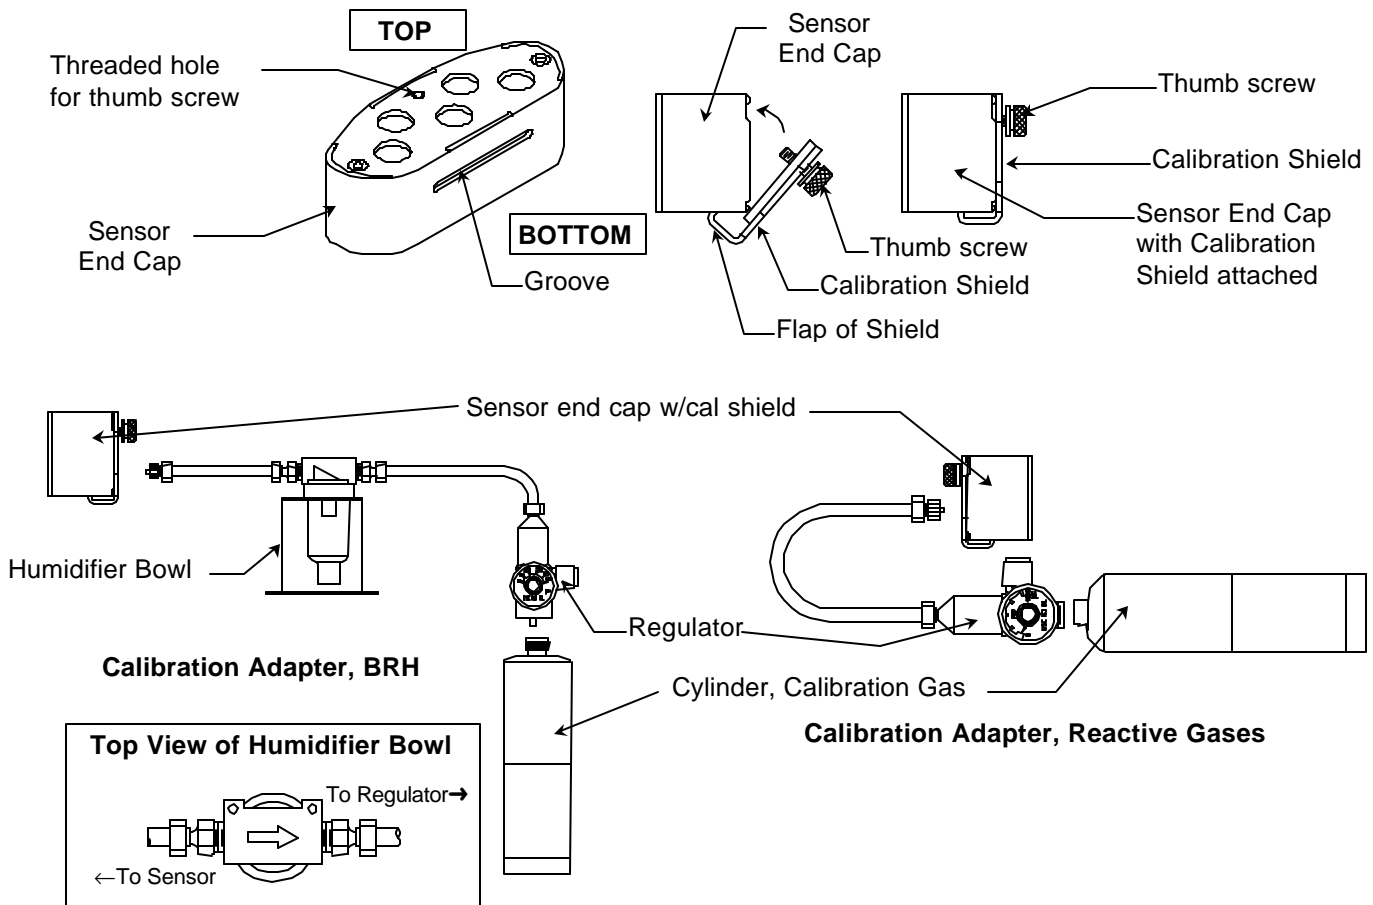

Figure 8: Calibration Adapter Attachment
Attach the sampling shield supplied with the instrument, to the bottom of the instrument in the same manner as the calibration shield, see Figure 8. The calibration shield has an orange label. The sampling shield has a yellow label.
Attach the calibration adapter to the cylinder of span gas and calibration shield. See figure 8.
- If the BRH sensor is being calibrated, fill the humidifier bowl approximately 1/3 full with clean, tap water. The tube should **NOT** go under the water line. No bubbles should be visible when gas is flowing. See figure 8.
- Use the reactive gases calibration adapter which does not have a humidifier bowl. For CO, O2, Methane sensor calibration these sensors may be calibrated simultaneously or individually using the combination calibration gas and reactive gases calibration adapter. See figure 8.
Attach the calibration shield to the sensor end cap of the instrument. See Figure 8. Guide the flap of the shield into the groove on the bottom of the end cap and bring the top of the shield towards the top of the end cap. Tighten the thumb screw into the threaded hole in the sensor end cap.